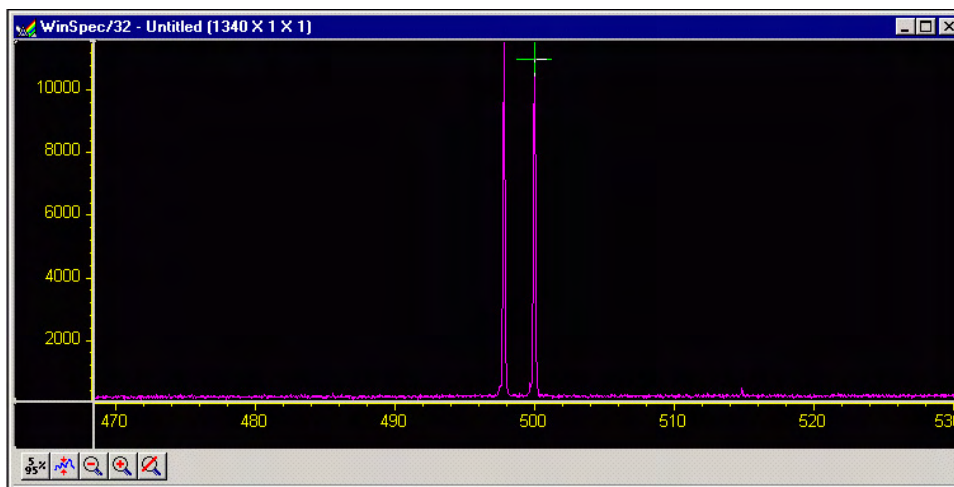

Figure 76. Calibration Adjust Spectrum
4. Figure 76 illustrates a typical Adjust data acquisition. The reference peak should appear near the center of the display and the cursor should be near or on the highest point of the peak.